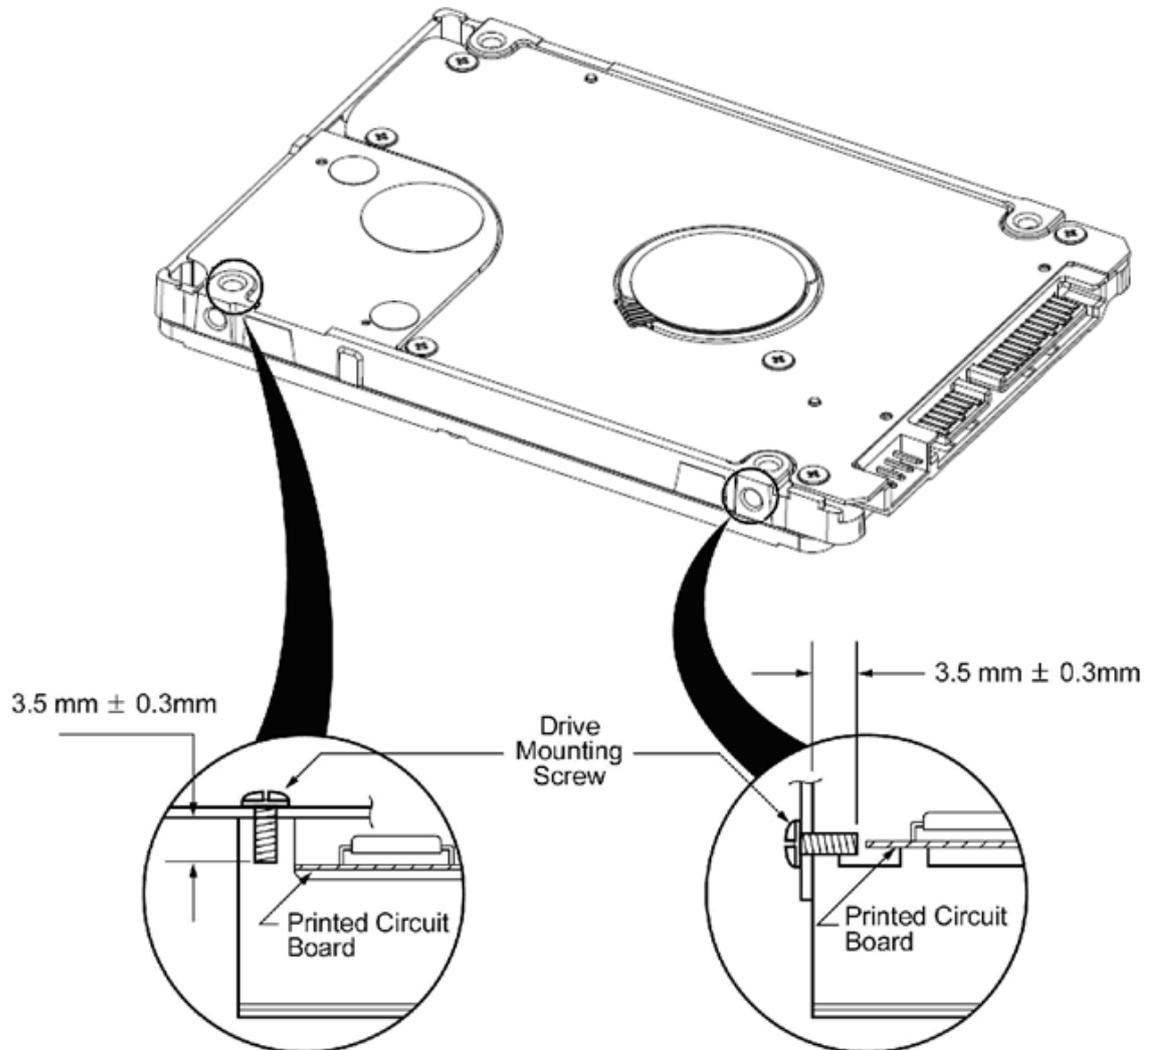

Figure 4-3 : Mounting-Screw Clearance
The printed circuit board (PCB) is designed to be very close to the mounting holes. Do not exceed the specified length for the mounting screw described in Figure 4-3. The specified screw length allows full use of the mounting-hole threads, while avoiding damage or placing unwanted stress on the PCB.
**CAUTION:** Using mounting screws that are longer than the maximum lengths specified in Figure 4-3 voids the warranty of the drive.